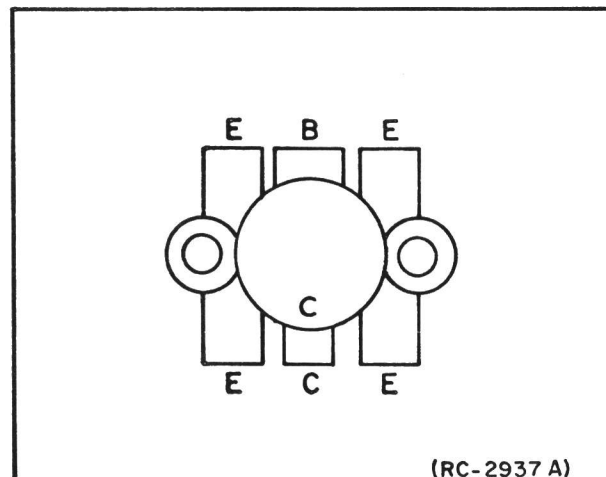

Figure 5 - PA Transistor Lead Identification for Q201 and Q202
- (2) Turn the PA board over.
- (3) Lift out the transistor, and remove the old solder from the printed circuit board with a de-soldering tool such as a SOLDA PULLT®. Special care should be taken to prevent damage to the printed circuit board runs because part of the matching network is included in the base and collector runs.
- (4) Trim the new transistor leads to the lead length of the removed transistor. The letter "C" on the top of the transistor indicates the collector. (See Figure 5 for transistor lead identification).
- (5) Apply a coat of silicon grease between the mounting surfaces of Q1 and Q2 and the heat sink. Replace the PA board and loosely insert the four hold-down screws. Place the transistor in the mounting hole. Align the leads as shown in the Outline Diagram. Then hold the body of the transistor and replace the transistor mounting hardware, using moderate torque (6 inch-pounds). A torque wrench must be used for these adjustments since transistor damage can result if too little or too much torque is used. Tighten the PA board hold down screws.
- (6) Solder the leads to the printed circuit pattern. Start at the inner edge of mounting hole and solder the remaining length of transistor lead to the board. Use care not to use excessive heat that causes the printed wire